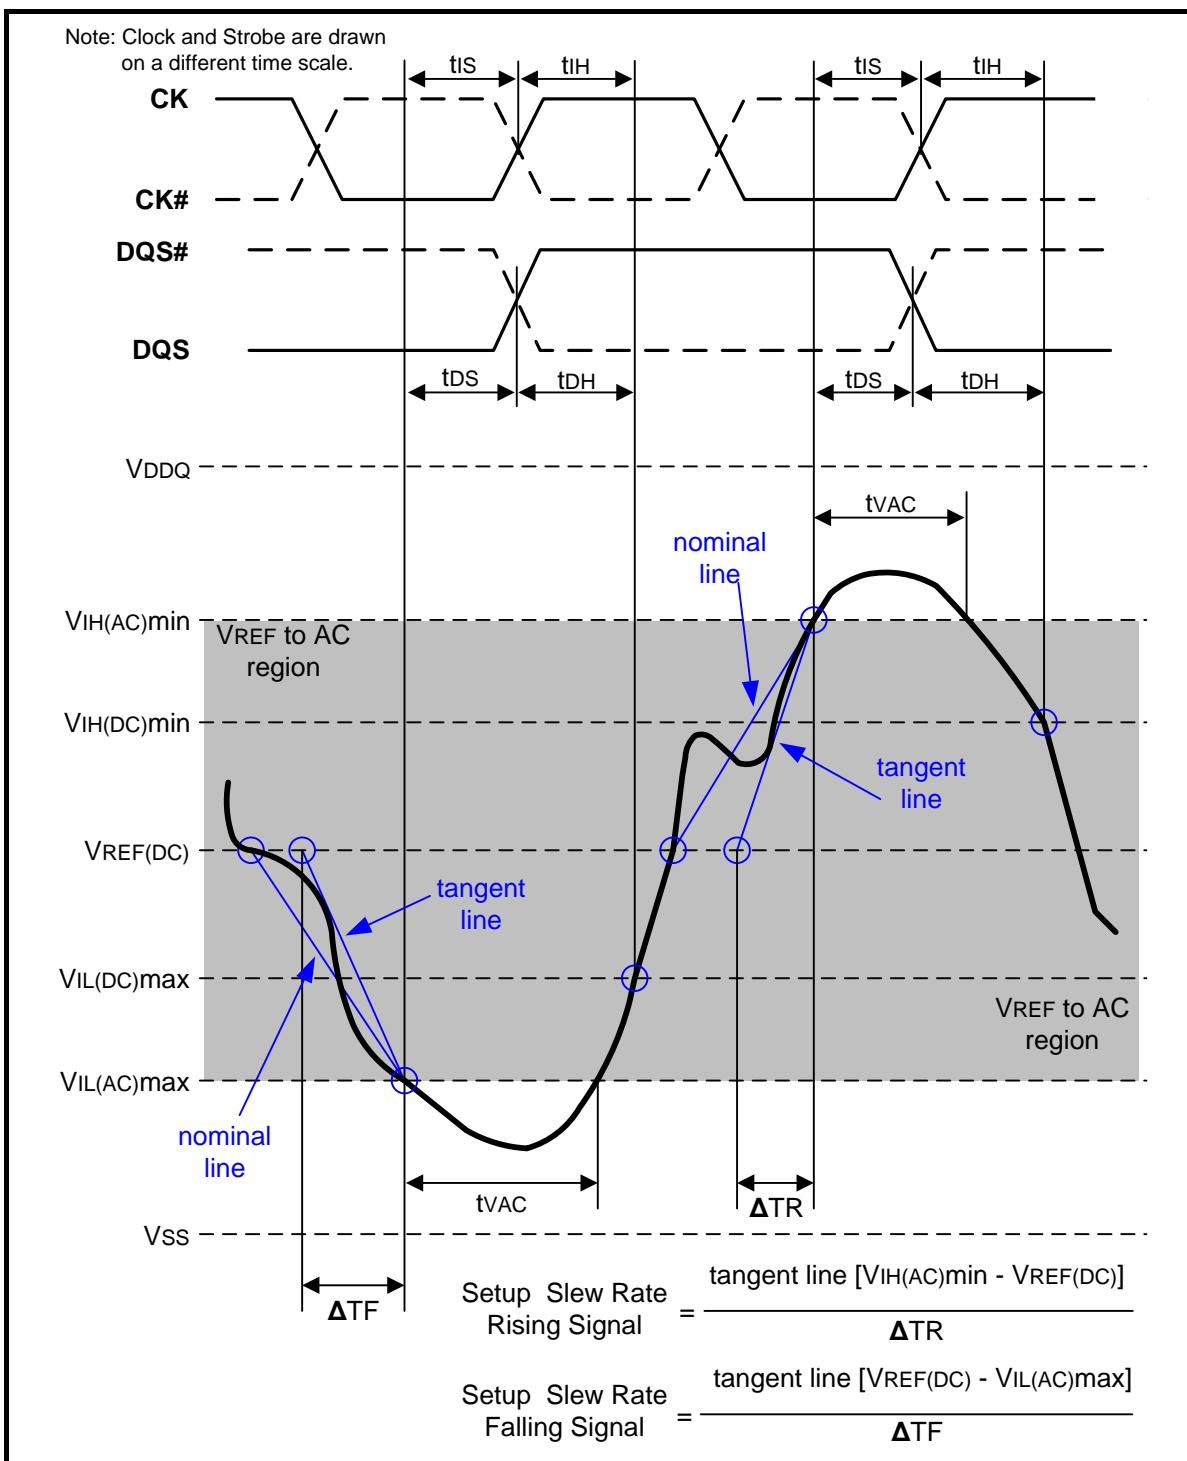

Figure 109 – Illustration of tangent line for setup time  $t_{DS}$  (for DQ with respect to strobe) and  $t_{IS}$  (for ADD/CMD with respect to clock)
Setup (tIS) nominal slew rate for a rising signal is defined as the slew rate between the last crossing of VREF(DC) and the first crossing of VIH(AC)min. Setup (tIS) nominal slew rate for a falling signal is defined as the slew rate between the last crossing of VREF(DC) and the first crossing of VIL(AC)max. If the actual signal is always earlier than the nominal slew rate line between shaded 'VREF(DC) to AC region', use nominal slew rate for derating value (see Figure 107). If the actual signal is later than the nominal slew rate line anywhere between shaded 'VREF(DC) to AC region', the slew rate of a tangent line to the actual signal from the AC level to DC level is used for derating value (see Figure 109).
Setup (tDS) nominal slew rate for a rising signal is defined as the slew rate between the last crossing of VREF(DC) and the first crossing of VIH(AC)min. Setup (tDS) nominal slew rate for a falling signal is defined as the slew rate between the last crossing of VREF(DC) and the first crossing of VIL(AC)max (see Figure 107). If the actual signal is always earlier than the nominal slew rate line between shaded 'VREF(DC) to AC region', use nominal slew rate for derating value. If the actual signal is later than the nominal slew rate line anywhere between shaded 'VREF(DC) to AC region', the slew rate of a tangent line to the actual signal from the AC level to DC level is used for derating value (see Figure 109).